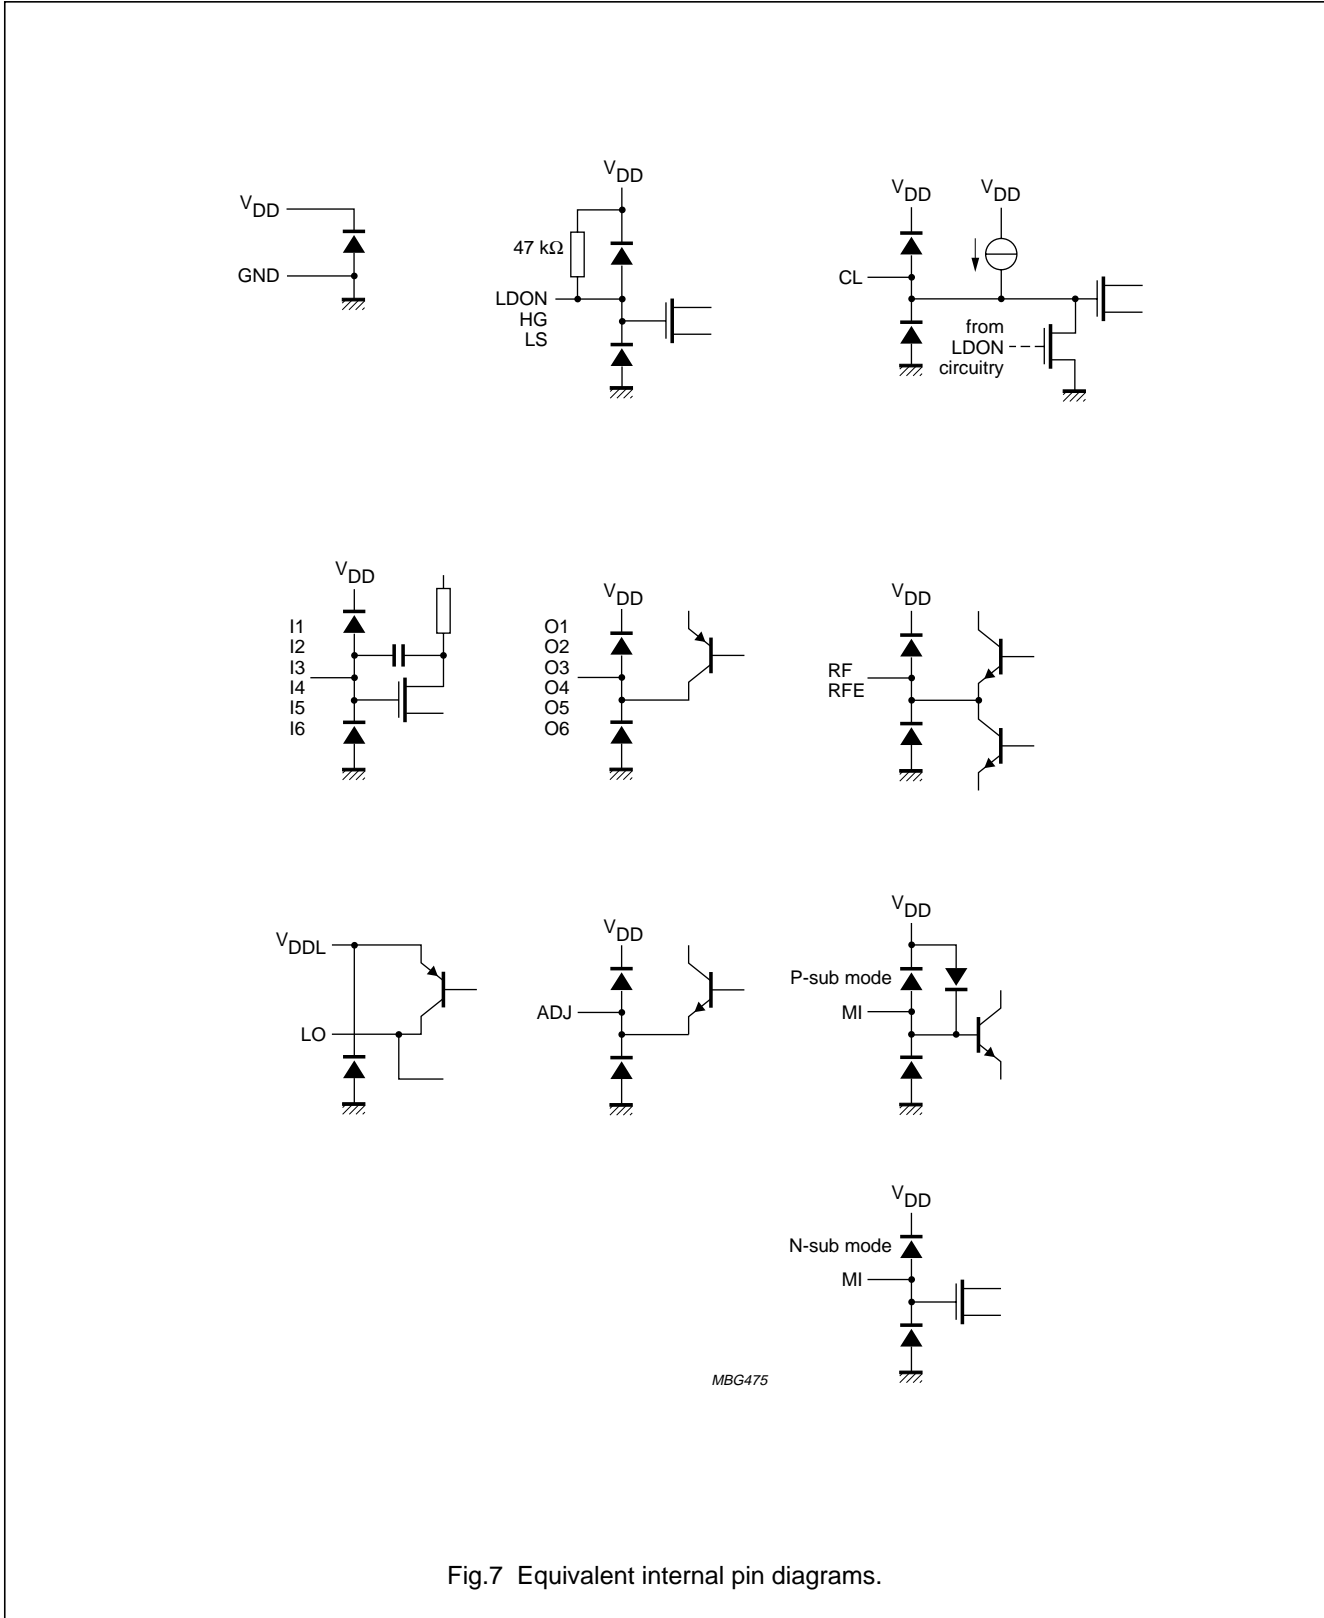

Fig.7 Equivalent internal pin diagrams.
6. For single speed the data amplifier gain ratio is defined as gain difference between 1 MHz and 100 kHz, while the flatness delay is defined up to 1 MHz (see Fig.7). For double speed the data amplifier gain ratio is defined as gain difference between 2 MHz and 200 kHz, while the flatness delay is defined up to 2 MHz.